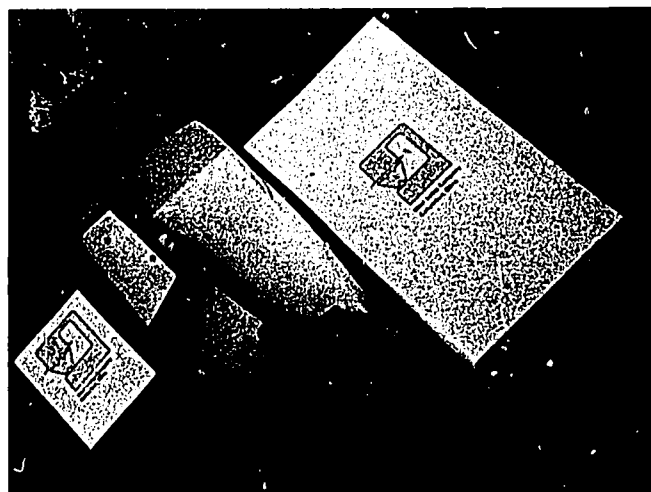
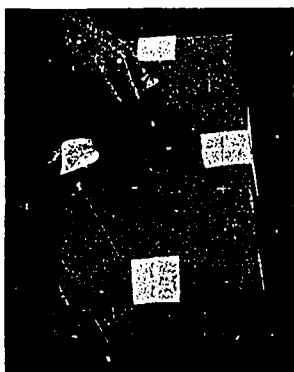

Fig. 85-9. Packaged Lamp
Fig. 85-10. Taping Box
9. NOTE: Later, after the product and Service Manual are placed in the package for distribution, (see Fig. 85-9), tape the edge of the top to the base of the bottom. See Fig. 85-10. An alternate way to keep the lid closed is to use string to tie it closed securely. Your teacher will tell you which method to use.